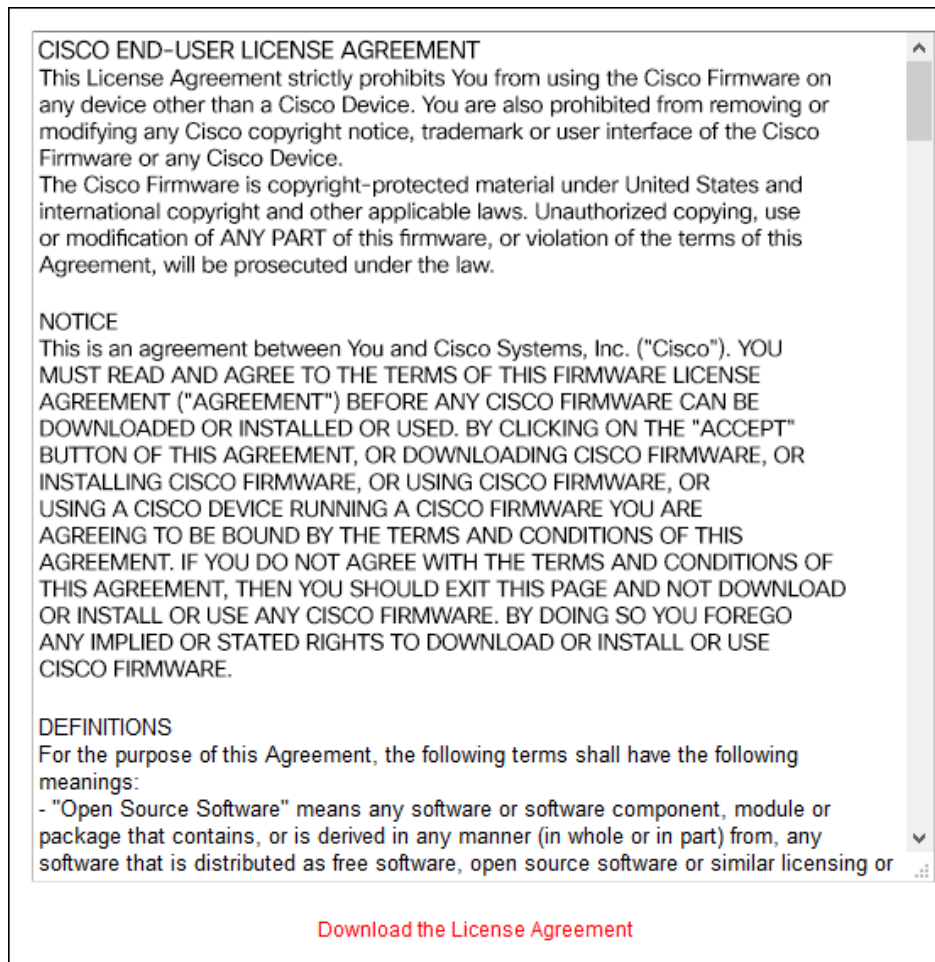

Figure 64. Configurator GUI (End-user license agreement)
- The license agreement dialog will be shown (Figure 64 (page 139)).